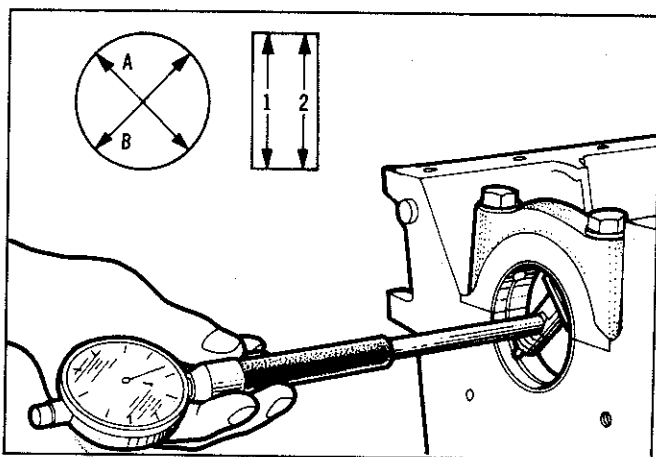

Fig. 47—Measuring bearing diameter
(2) Assemble the bearings and caps and measure the bearing inside diameter, Fig. 47. The clearance is the difference between the respective bearing and journal diameter.
(3) If the clearance is not within specification and the journal diameter is within specification the bearings must be replaced.